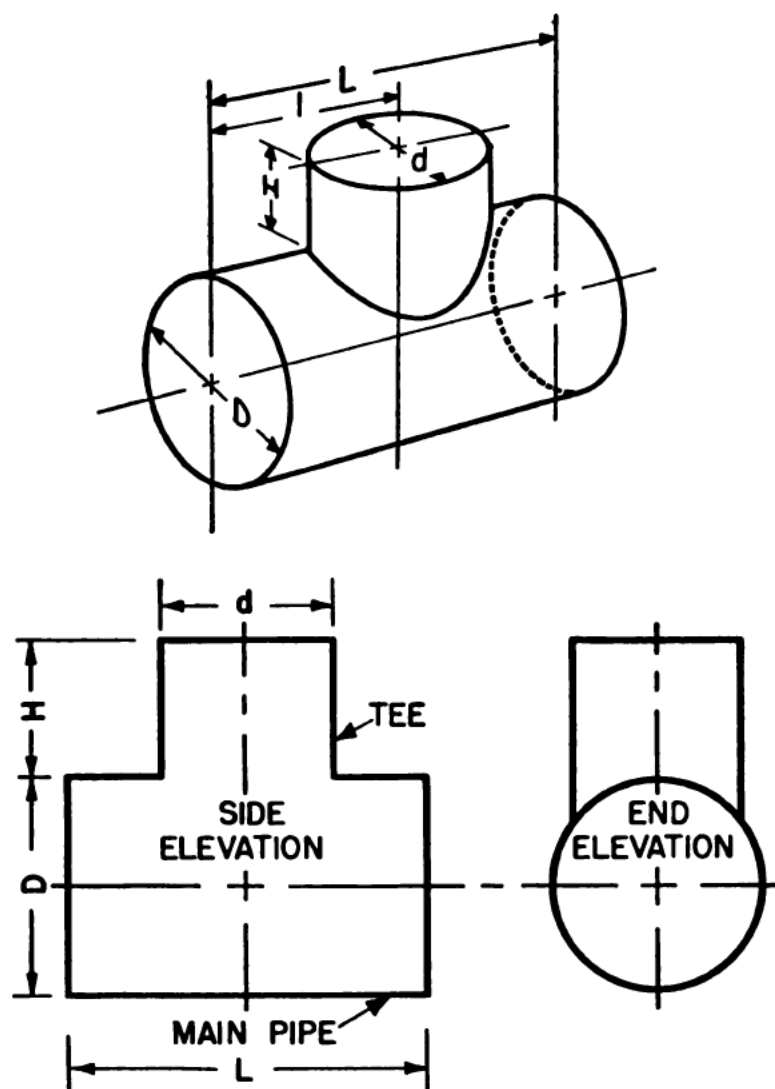

Figure 60.—Pictorial view and side and end elevation of a T-joint.
Let's see how a T-joint is developed. To develop a T-joint you will have to draw a side and end elevation of the joint. For the side elevation you draw the T exactly as you would see it when you looked at it directly from the side. Now, imagine that you are holding the T in the palm of your hand looking at the side. Revolve it  $90^\circ$  toward you so that you will be looking into the end of the horizontal pipe and draw the end elevation. Figure 60 shows a pictorial view and side and end elevation of a T-joint.
2. Construct parallel lines, leaving sufficient space for the development of your side and end elevations. These lines will form the center lines for the two elevations (see fig. 60).